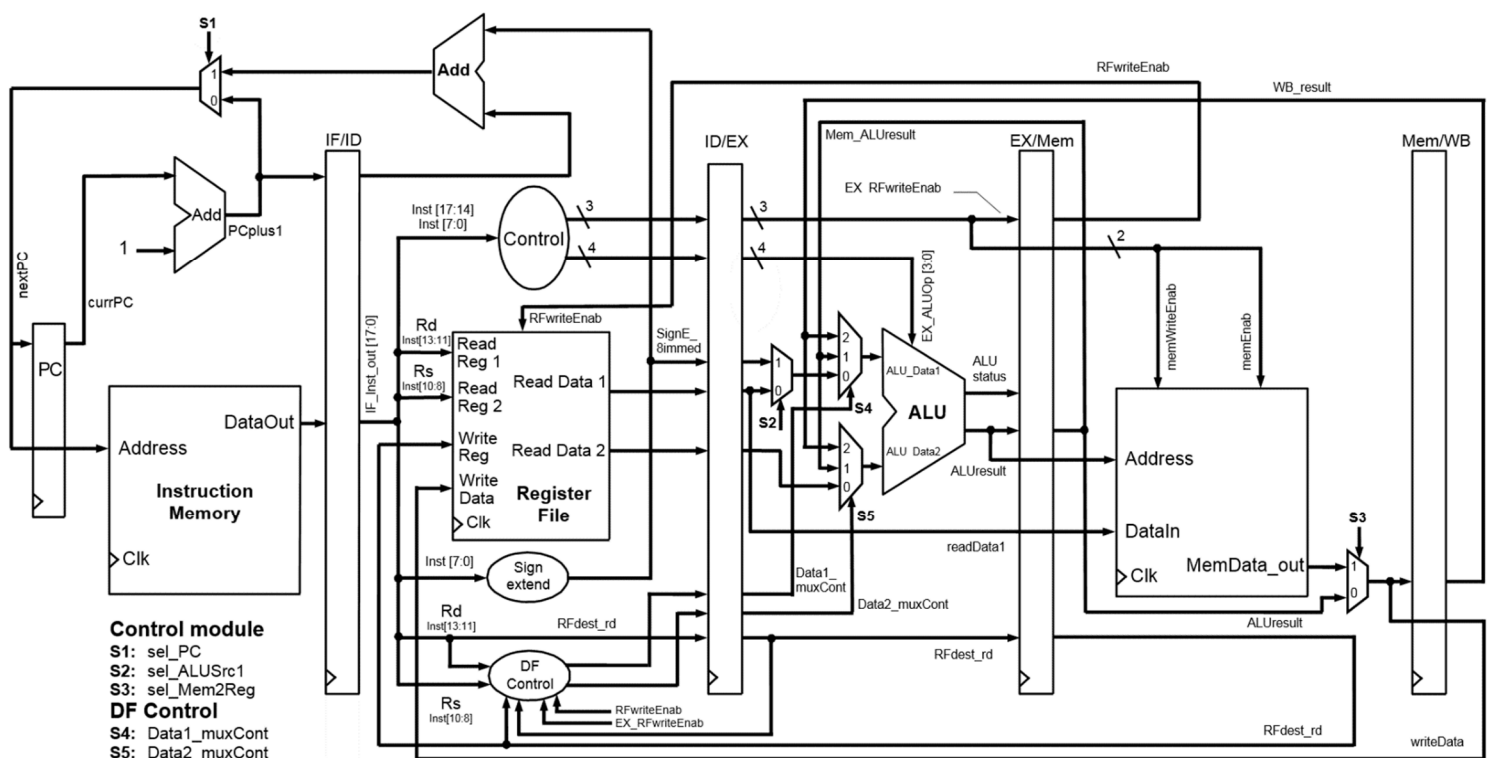

Figure 1: uP16 Block Diagram
Examine the *IF_stage.v*, *ID_stage.v*, *EX_stage.v* and *Mem_stage.v* Verilog source files (note from figure 1, there is no write back (**WB**) stage with write back occurring on the clock edge at the end of the **Mem** stage). In *ID_stage.v*, look at the control module implementation (particularly the instruction decoding and control signal generation). Study the implementation of the 16-bit sign extend unit (a single line immediately below the module instantiations).
6. Simulate the design. **Check that the default simulation radix is hexadecimal** (Select the settings icon at the above-right of the black waveform window). Zoom out till you can just see the digits in *IF_inst_d*. Observe that after *Rst* is de-asserted the program counter (*PC*), *IF_currPC*, increments from 0000 each clock cycle. Also note that the processor instruction, *IF_inst_d*, which is read from the instruction memory (addressed by the *PC*) is one clock cycle later, as it is actually from the IF/ID pipeline register (see figure 1).
10. Next scroll (and click) at 245ns. *PC*=0x000F is the first *sw* instruction (*sw r4, r1, #0*), which stores the contents of RF4 (0xF971) into the memory location pointed to by the sum of RF1 (0x0001) and the offset (0x000). Observe that the two memory enables, address and data in signals are the expected values and are active 2 cycles later. Two cycles delay (rather than the expected 3 cycles) is correct as an examination of Figure 1 shows that these signals are generated in the EX stage and bypass the EX_Mem pipeline register. But the memory is synchronous (clocked) and the write does occur on the next clock cycle (as indicated by the data on the *Data_out* signal occurring one clock cycle later).